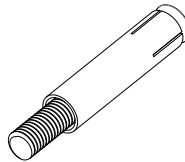

Figure 4-3 Expansion tube
Step2: Put the expansion pipe showing in Figure 4-3 into the hole vertically, use hammer to tap the pipe into the wall completely.